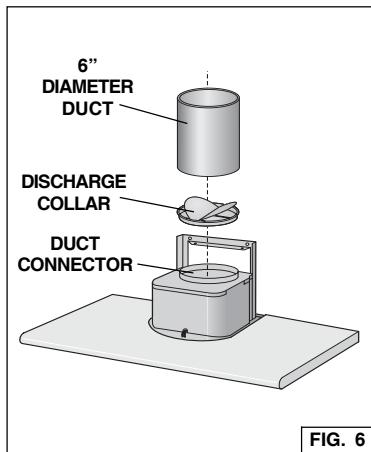

FIG. 6
2. Install the discharge collar into the duct connector of the range hood. Fig. 6
3. Attach an adequate length of 6" round steel ducting to the range hood duct connector. Fig. 6